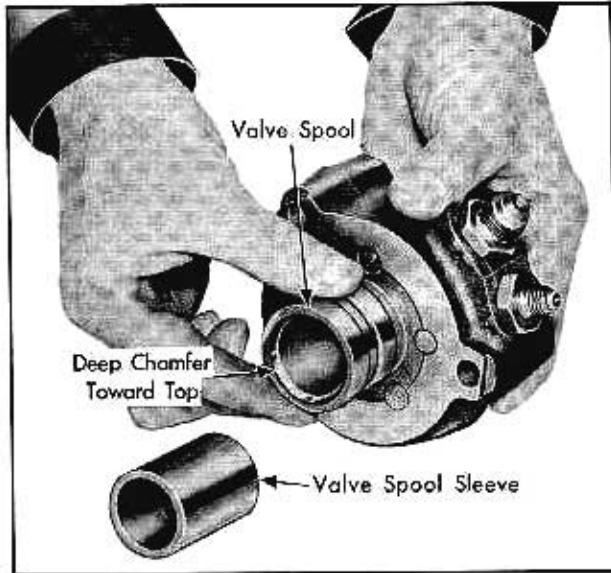

Fig. 7-24 Removing Valve Spool and Sleeve
1. Slide spool and sleeve out of valve body carefully. Note that top of spool is counterbored. Fig. 7-24.
3. Install valve spool in valve body with counter-bored end of spool toward top of valve body. Fig. 7-24.